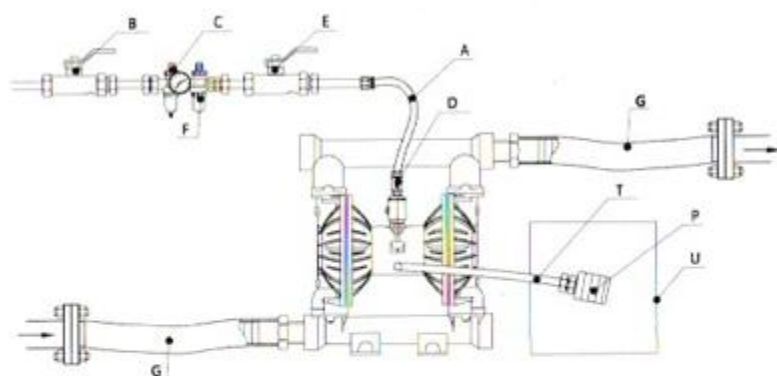

Fig.2
- The typical installation information is shown in Fig 2 is only used to guide you to select and install system components. If you want to plan a system to suit your need, please contact your pump distributor.
A bleed—type master air valve (B) is required on your system, to relieve air trapped between itself and the pump. Trapped air can cause the pump to cycle unexpectedly, which could result in serious bodily injury, including splashing liquid into eyes or skin, injury caused by moving parts, or contaminants, hazardous. fluids. Refer to Fig 2.
- 1- Use grounded fluid hose (G). Pump fluid suction (R). Attach fluid hose terminal to inlet of pump with screws.
- 5- As shown on fig2, hang all the airline accessories on the wall or on a bracket. Ensure that the airline accessories are on the ground.
- 6- Install & control an air regulator (C). The output pressure of fluid should be equal to the value set in air regulator.
- 10- Before operating the pump, do not connect the hose terminal to connector (D).